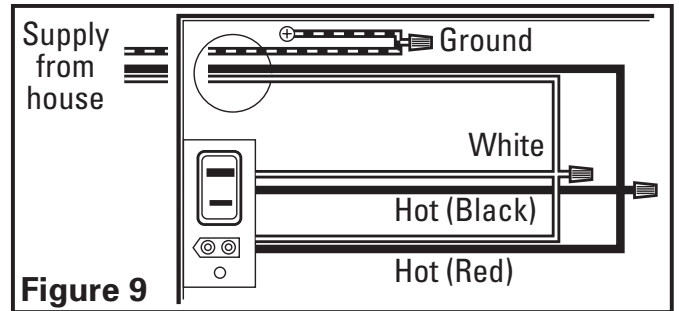

Figure 9
- 2a. From where you have access to inside the fan's junction box, connect the one white wire from the house to both the white wire from the fan's light receptacle and the white wire from the fan's exhaust receptacle. Connect the black wire from the wall switch to both the red wire from the fan's light receptacle and the black wire from the fan's exhaust receptacle. Connect the ground wire from the house to the green wire from the fan's grounding screw (Figure 9). Use approved methods for all connections.